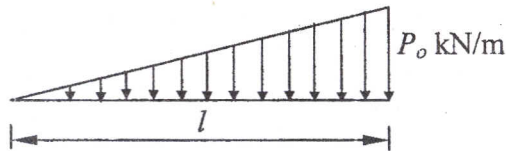

Fig. 1
3. For the uniformly varying load acting on the beam element shown in fig.1 estimate the equivalent nodal load vector.